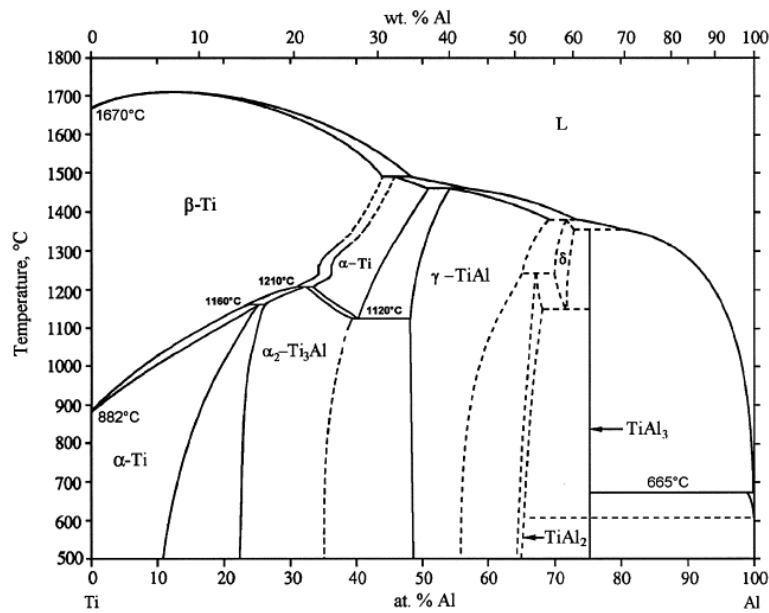

Figure 7. Binary Ti-Al phase diagram
a) Figure 7 shows the binary Ti-Al phase diagram.